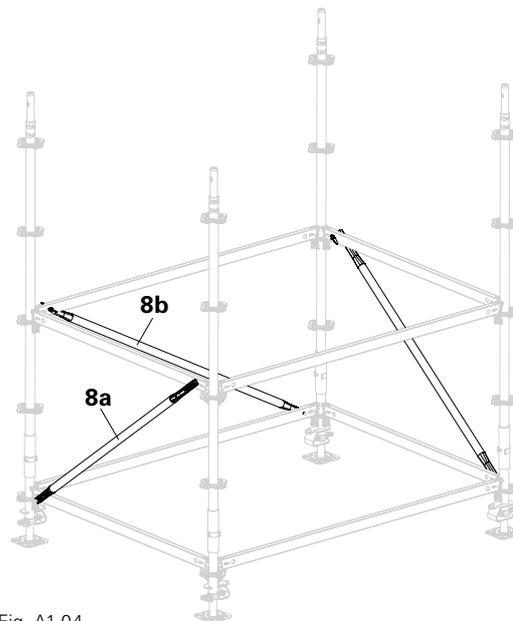

Fig. A1.04
4. Install Ledger Brace (8a) - 2x. (Fig. A1.04)
5. Install Ledger Brace (8b) - 1x. (Fig. A1.04)
6. Dismantle the assembly aid H-Brace (4). (Fig. A1.04)